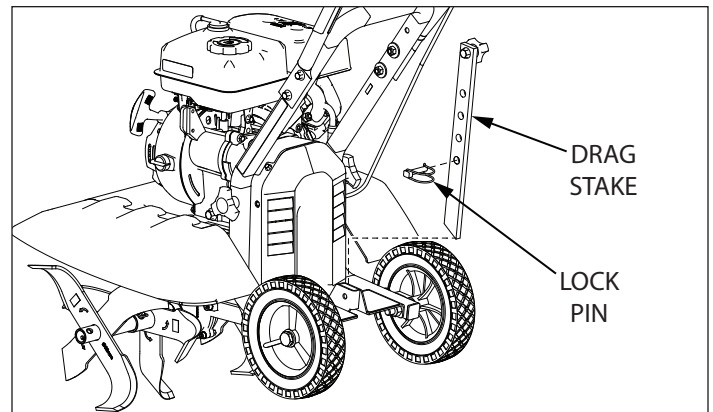

FIGURE 12
15. Slide drag stake through drag stake mount and secure with lock pin at the desired depth. **SEE FIGURE 12**